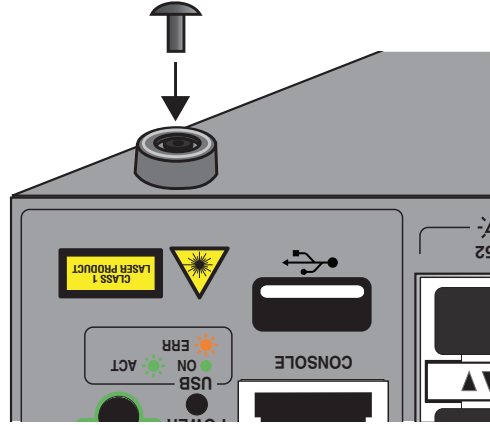

Figure 32. Inserting the Rivet into the Bumper Foot
4. Insert the rivet to secure the bumper foot to the base. Refer to Figure 32 on page 72.